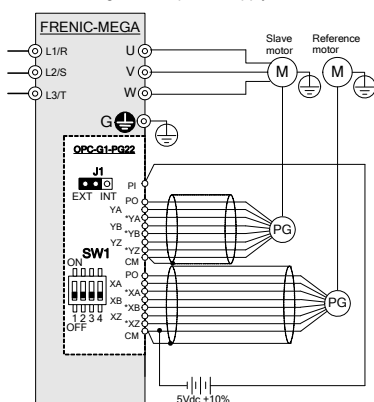

Figure 2.2 Connection Diagrams of OPC-G1-PG22
- Figure 2.2 shows connection diagram examples of the OPC-G1-PG22.